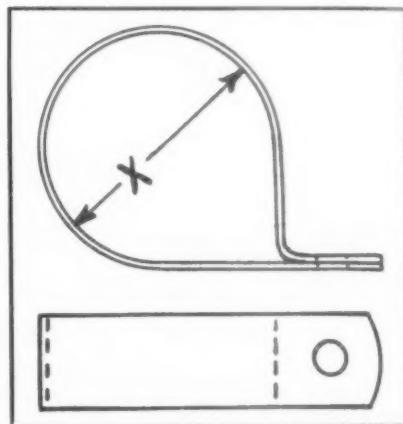
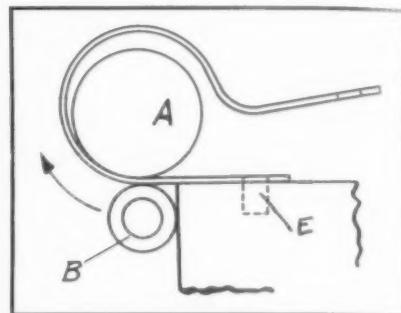
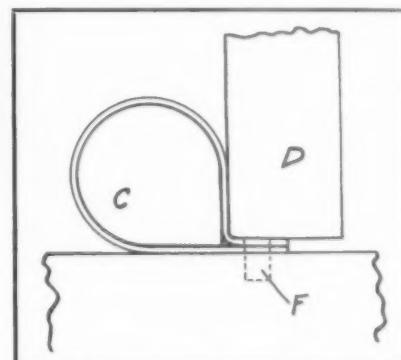

Figure 1
Figure 2
Figure 3
THE clip shown in Figure 1 is made of hard rolled wire, the requirements being that the diameter X be held to close limits, and that the ends lay together with a definite amount of tension. The greatest difficulty lay in overcoming the effects of spring-back, so that the ends would snap together. The following method,
After the blanks are cut and pierced, one end is located on the pin E, which is carried in a fixed block on a hand fixture, as in Figure 2. A loop is then formed by the roller B rolling the material around the pin A. The spring-back of the material produces the shape shown in Figure 2. The diameter of the pin A, which must be determined by experiment, is such that the inside diameter of the clip as formed by this operation will be slightly less than the diameter X, in Figure 1.
a power press, as shown in Figure 3. The block C, which is fixed in position, is formed to the exact shape and dimensions as the inside of the clip shown in Figure 1. As the clip at this point is slightly smaller on the inside than the block C, it must be sprung open slightly to be located on block C, thus providing the tension which is one of the requirements.
C. Pin F extends out of the block slightly less than the thickness of the material. As the punch D descends, the clip is formed as in Figure 3. As this operation may be classed as an ironing rather than a bending operation, there is practically no spring-back of the material. When the clip is removed from block C, it retains its shape and the tension it acquired by being sprung on block C.
You can see by referring to Fig. 1 that a chip produced by a blade of the conventional type will be flat. The cutting action of the blade causes this flat chip to expand and jam against the walls of the cut, creating excessive chip friction which results in rapid breakdowns of the blade.
A chip issuing from the Luers Blade (Fig. 2) assumes a curved shape conforming with the hollow-ground top of the blade. In this curved form the chip is free to collapse into the concave top of the blade and cause the least amount of contact with the restricting sidewalls. Excessive friction is eliminated.
provided by the distinctive T-shaped design of the blade (Fig. 3), too, serves to reduce friction. Since this side clearance and the hollow-ground top both extend the full length of the blade, it is apparent that neither of these surfaces require regrinding. They both remain unchanged. That means that the task of sharpening is very simple—so simple, in fact, that even an unskilled operator can do it. Only the front face, or cutting edge, is ever sharpened. A special gauge permits even an unskilled operator to restore the blade exactly to its former position.